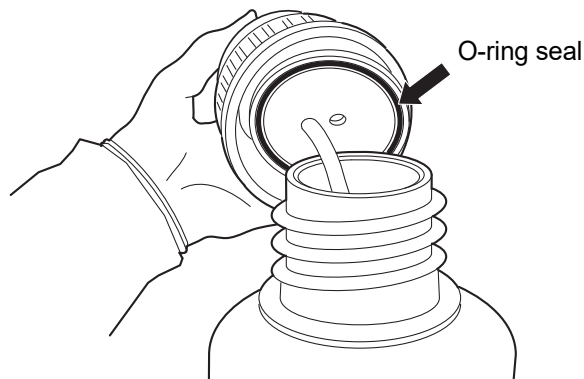

Figure 8-16 Inspect waste bottle O-ring seal
8. **O-ring seal** — Before reattachment, inspect the O-ring seal located on the inside of the waste cap for any debris. See Figure 8-16.